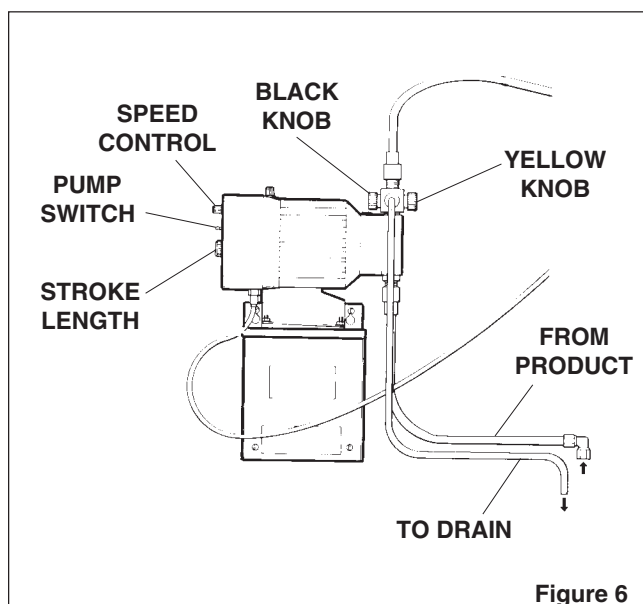

Figure 6
- Place the pump switch in the INTERNAL position. As the pump is running, set the stroke length knob at 60% (all dosage ratio calculations are based on 60% stroke length), *refer to Figure 6.*